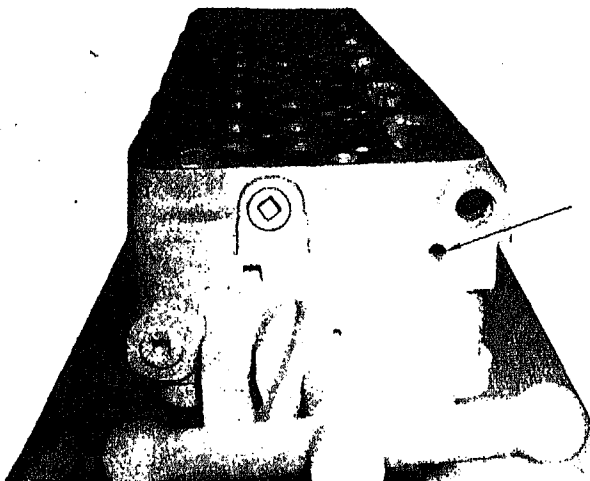

Fig. 2-1-6. Fuse plug location
Some cylinder heads are equipped with fuse plugs containing a metal-alloy center that melts if the engine is overheated. Fig. 2-1-6.
2. Install new plug if metal alloy has melted. Fig. 2-1-6.